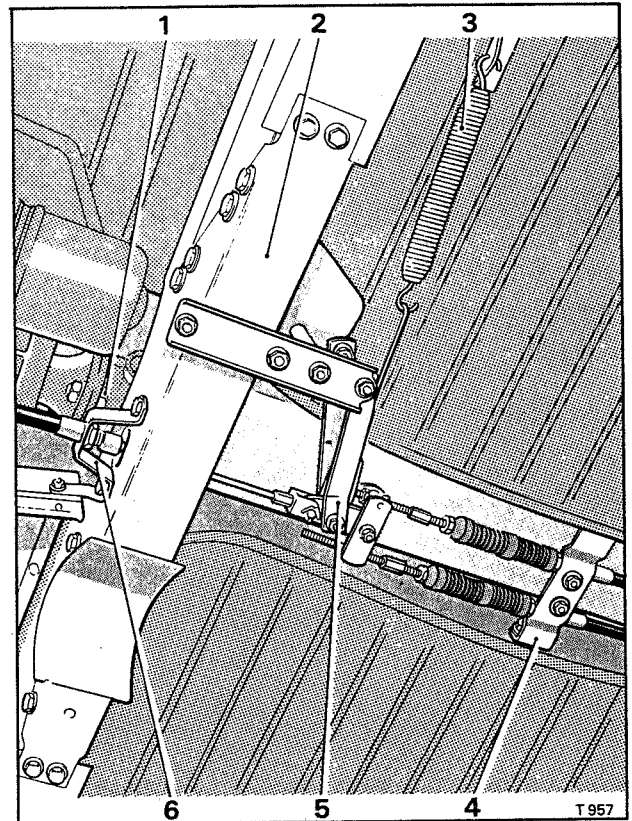

Fig. G39m Parking brake intermediate linkage (Left-hand drive cars)
2. At the intermediate linkage on the underside of the body, unhook the parking brake return spring from the operating lever. Remove the clevis pin attaching the front brake cable to the lever (see Fig. G39m).